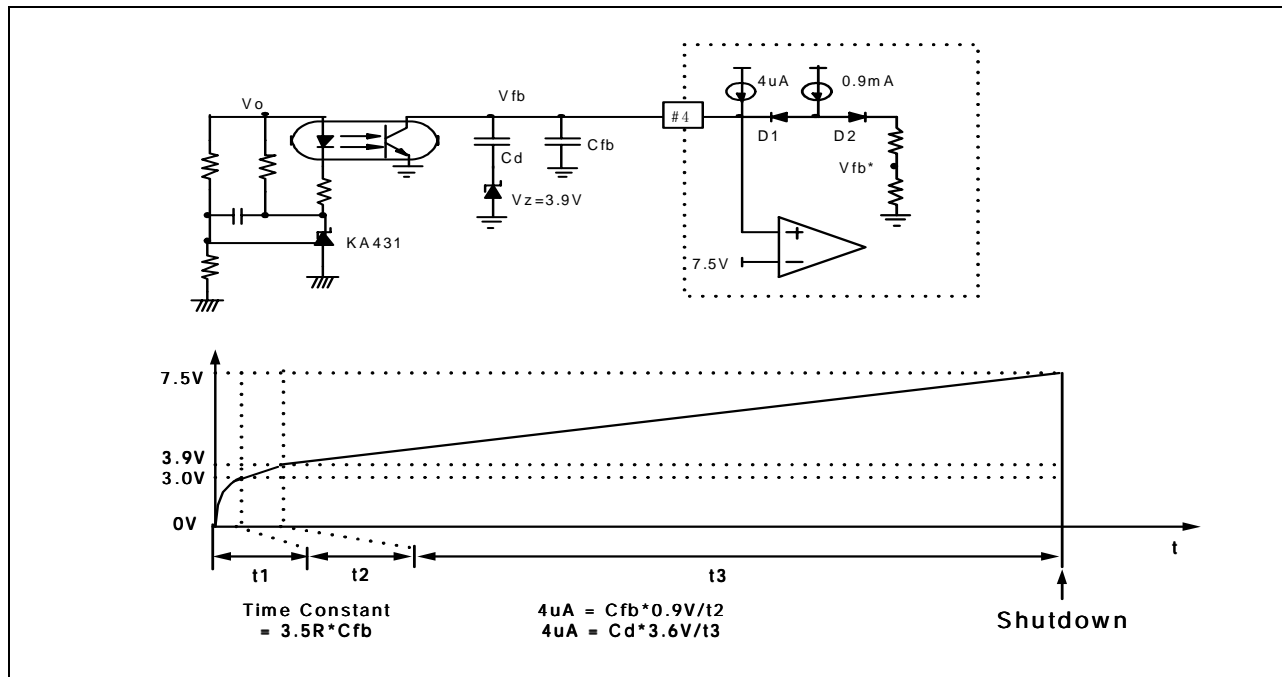

Figure 3. SPS Delayed Shutdown
SPS shutdown. If a part of delay current go through the added resistor, the time to shutdown can be lengthened. In our test the delay shutdown time with  $C_{fb}$ (473) and resistor (3.9M) is about two times longer than with only  $C_{fb}$ (473). When  $V_{fb}$  is 7.5V, the current flowing through this 3.9MΩ resistor is approximately 1.9μA. To obtain the same results, if a zener diode (about 3.9 ~ 4.7V) in series connection with a capacitor is parallel-connected to  $C_{fb}$ , as depicted in Fig 3., the desired shutdown delay time could be obtained according to the size of the capacitor.